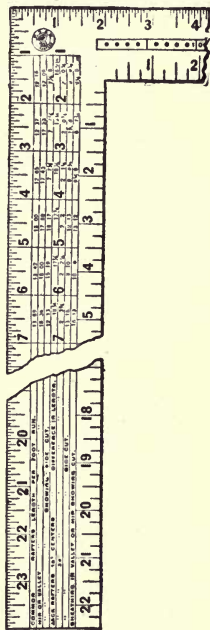

FIG. 203.—Steel Framing Square.
**495. Description of Squares.**—Squares are of two general types—the framing square and the try-square. The framing square (Fig. 203) consists of a long arm, usually 24 in. long, called the blade, and a short arm, usually 18 in. long, called the tongue, both of which are made from one piece of metal. One side of the square is graduated to inches and fractions of an inch; the other side bears a board measure scale on the blade, and a rafter measure table on the tongue. The framing square is used in measuring boards, testing corners, and setting the bevel of boards and tools to various angles.